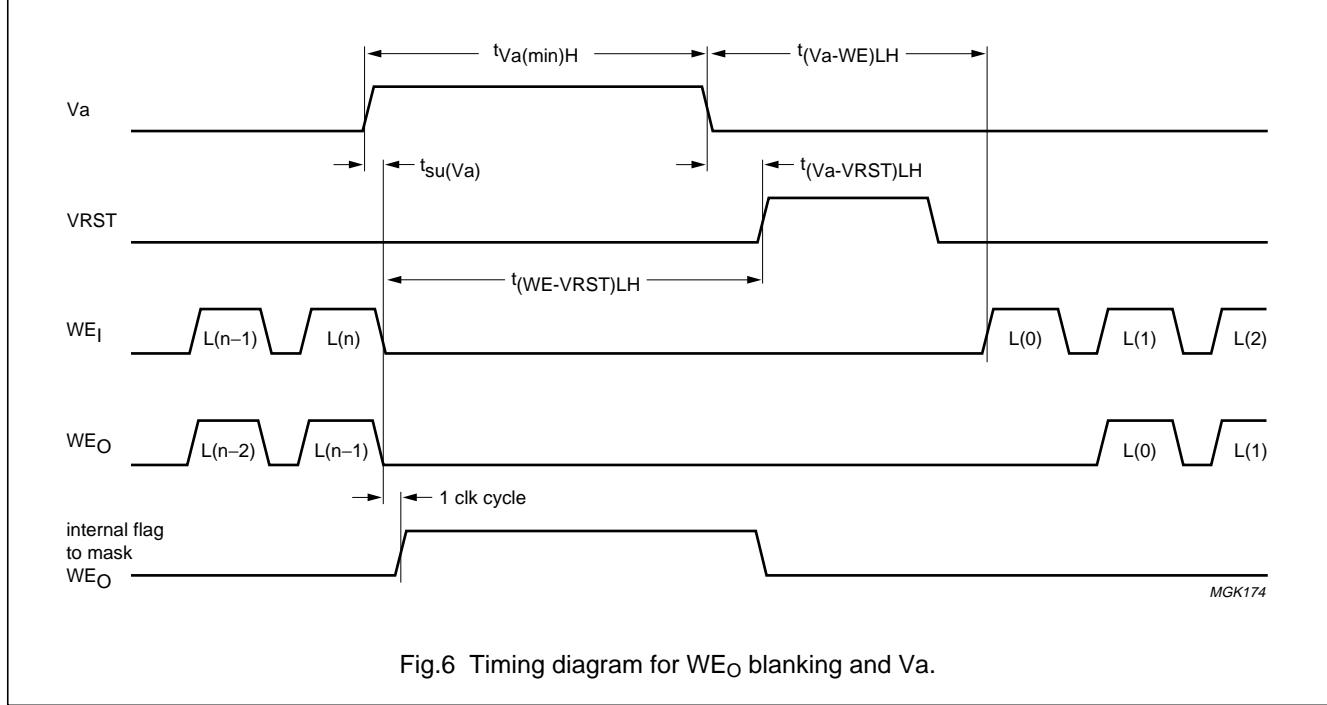

Fig.6 Timing diagram for WEO blanking and Va.
- See timing diagram Fig.6 and Table 11 for timing specification.
- Timing relation (see Fig.6) depending on write enable select signal (WES) in status register; to adapt to different external video memories
- The write enable output sequence is a copy of the write enable input sequence of the previous line (see Fig.6) with a shift of one line